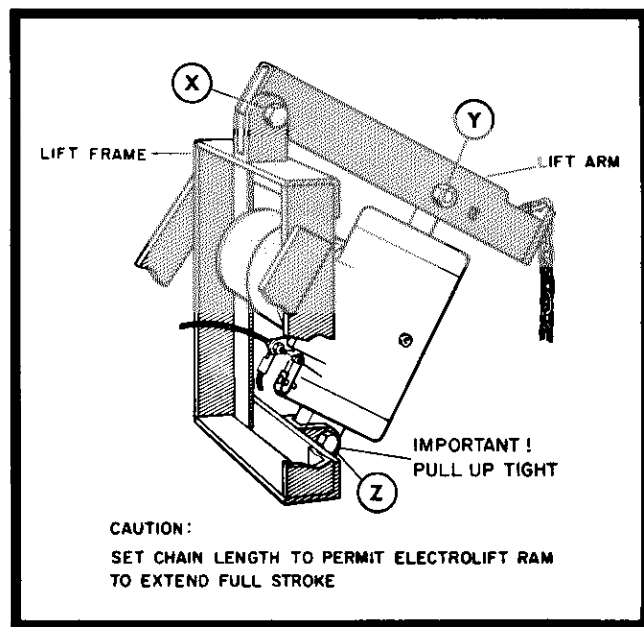

Figure 1. Electrolift Installation
1. **ELECTROLIFT UNIT** (See Fig. 1)